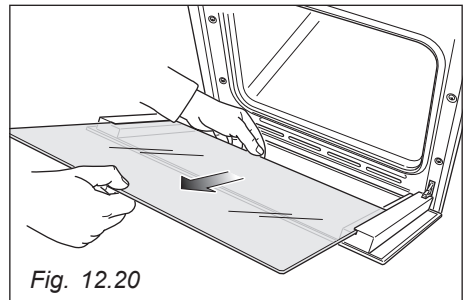

Fig. 12.20
- Gently pull out the inner pane of glass (fig. 12.20).